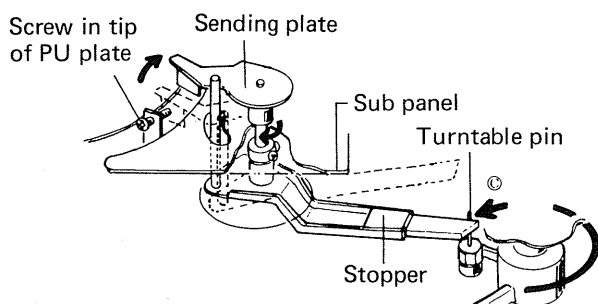

Fig. 9
1. As the tonearm approaches the lead-out groove, the screw at the tip of the PU plate pushes against the sending plate, moving the stopper over to the center shaft (Fig. 9).